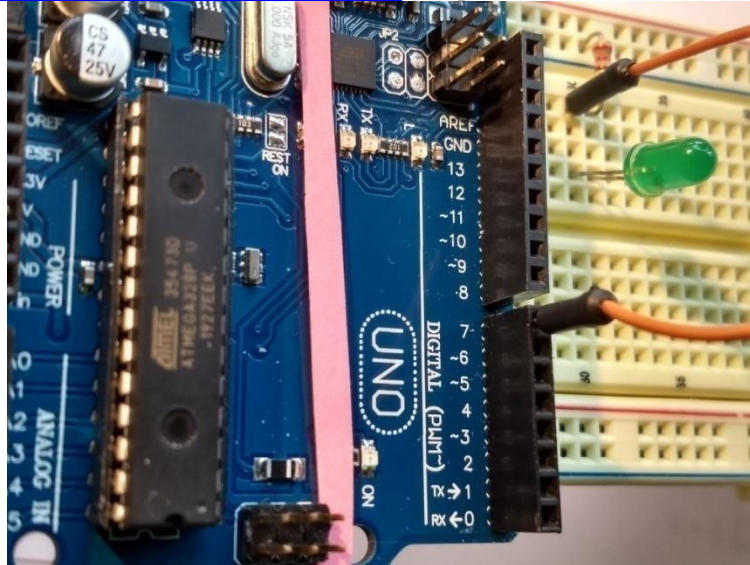

Figure 8. Connecting the LED to the Arduino.
2. Using a flexible jump wire, connect the LED's power pin (hole I30) to Port 7 on the Arduino, as shown in Figure 8. (If you need help finding Port 7, consult the Arduino Quick Reference page at the end of this document.)